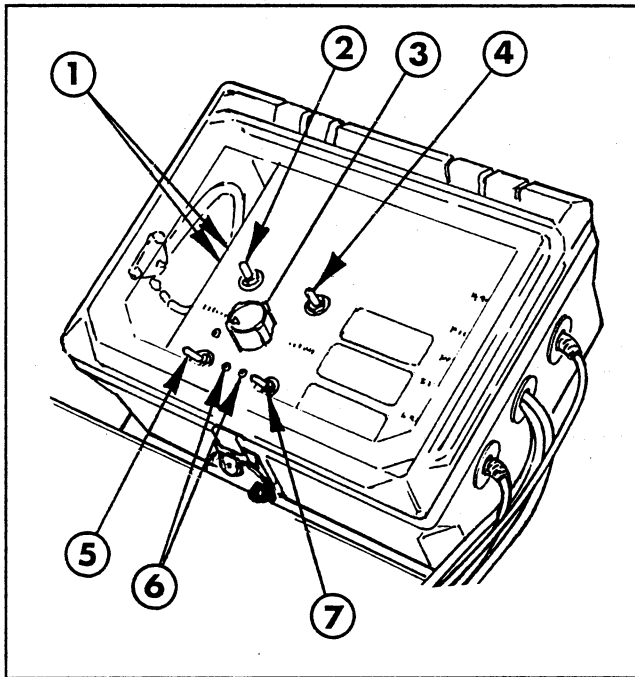

FIG. 1
Power Switch (FIG. 1): Switches the power to the control box On or Off.
Right Boom Up/Down Switch (FIG. 1): Controls the up and down motion of the right boom.
Left Boom Up/Down Switch (FIG. 1): Controls the up and down motion of the left boom.
Sonar Switch (FIG. 1): Toggles the boom lift control between sonar operation and manual operation.
Height Adjustment Knob (FIG. 1): Adjust the height at which the sonar control will maintain the left and right booms.
1. Should either of the actuators draw a heavy load current momentarily, the left or right Overload Indicator light will come on to indicate the boom effected (FIG. 1).
1. Should power to the sonar system fail, push the manual reset buttons (FIG. 1) on the left hand side of the sonar controller head, to restore power.